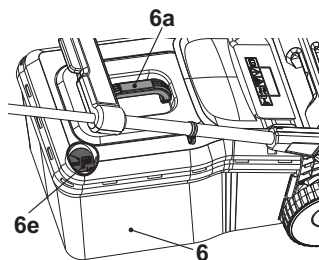

Fig. 15
2. When the hatch (6e) is closed, the grass catcher is full and must be emptied (Fig. 15).